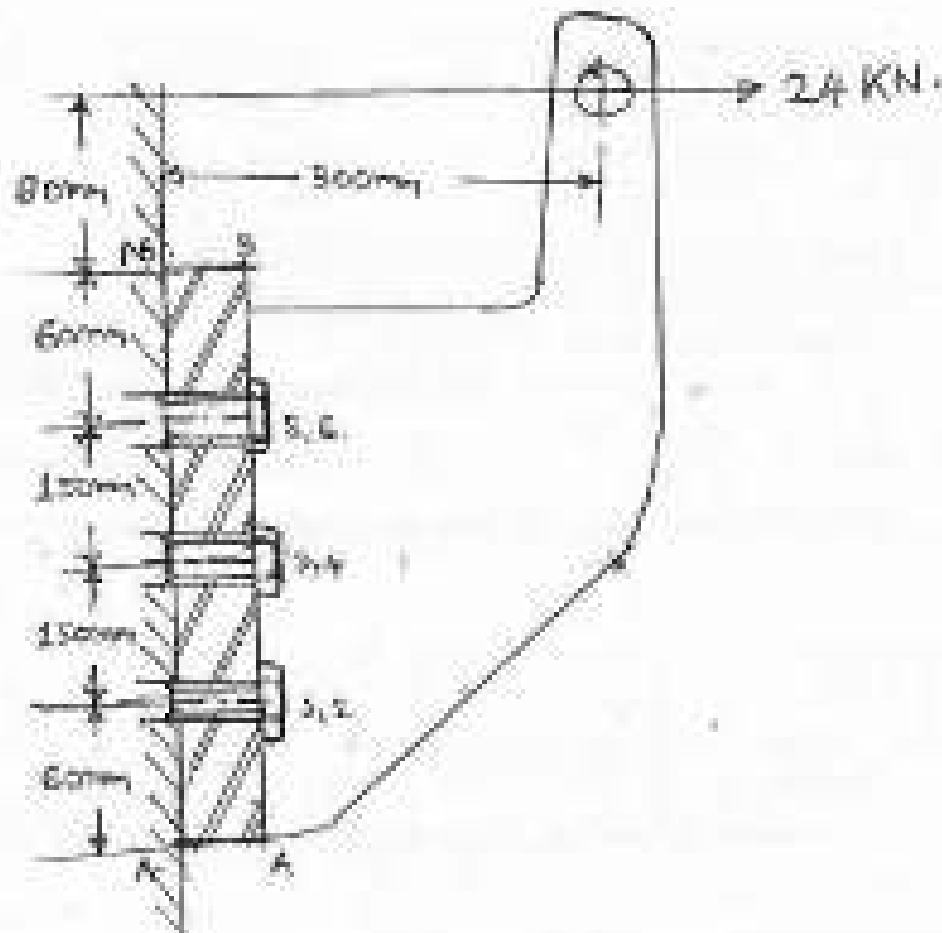

Fig. 3b-1
- b) A bracket is bolted to a vertical pillar using six bolts, 2 bolts in each row as shown in Fig. 3b-l. The bracket carries a load of 24 kN. Assuming tensile stress for the bolt material as 80 MPa determine the bolt size. [10]